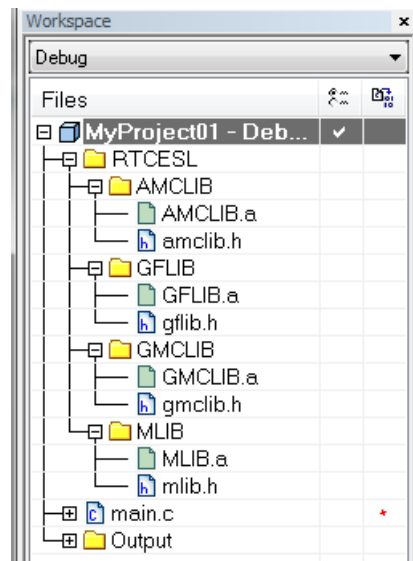

Figure 1-45. Project workspace
4. Click on the newly created node MLIB, and go to the main menu Project > Add Files... See Figure 1-45.
23. Now you will see the files added in the workspace. See Figure 1-45.